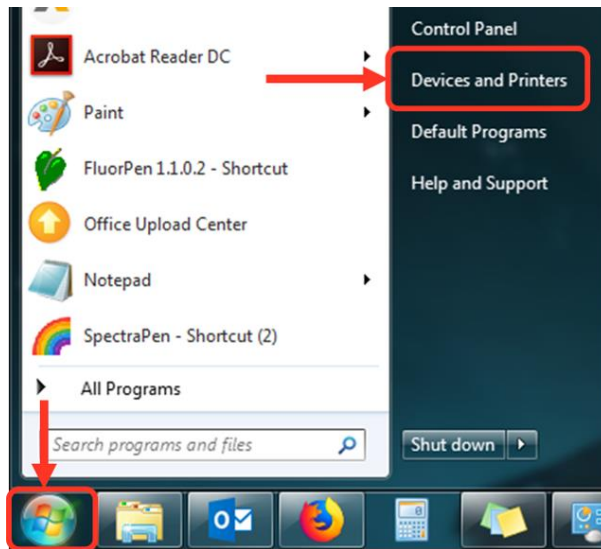

Fig. 7 Start Bluetooth Application.
- Select: **Start > Devices and Printers** (Fig. 7).